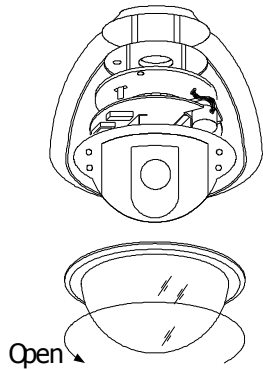

Figure 6
2. Rotate the dome cover counterclockwise and take out it. (See Figure 6)